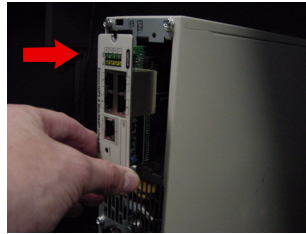
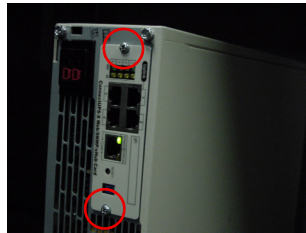

Figure 2. Install the ConnectUPS Card
Figure 3. Secure the ConnectUPS Card
4. Slide the card into the open slot and secure with the screws removed in Step 2 (see Figure 2 and Figure 3).